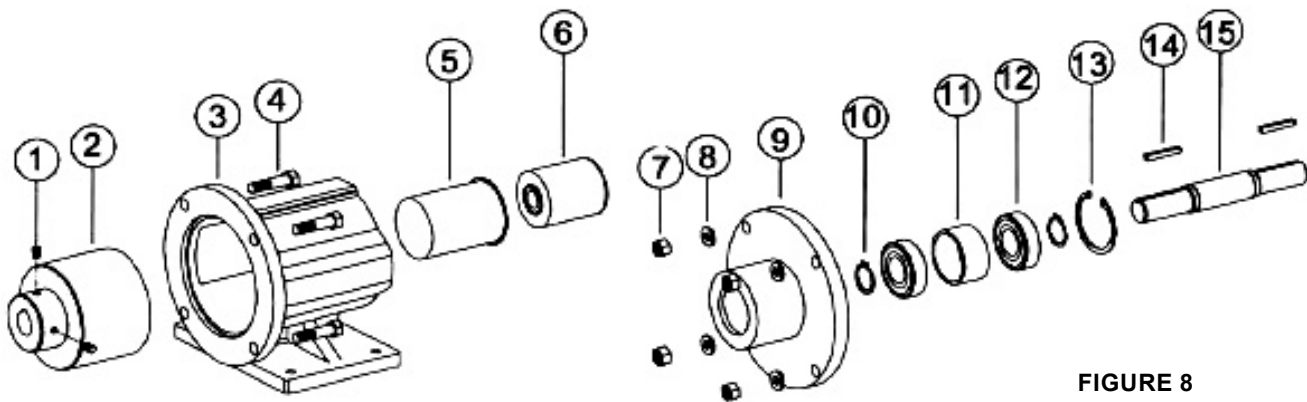
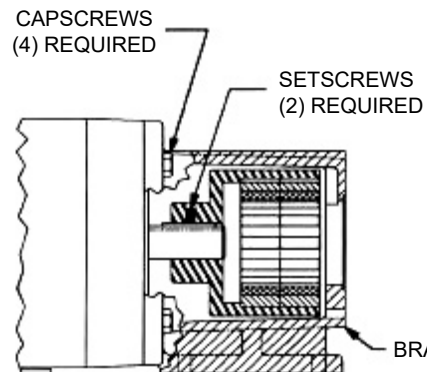
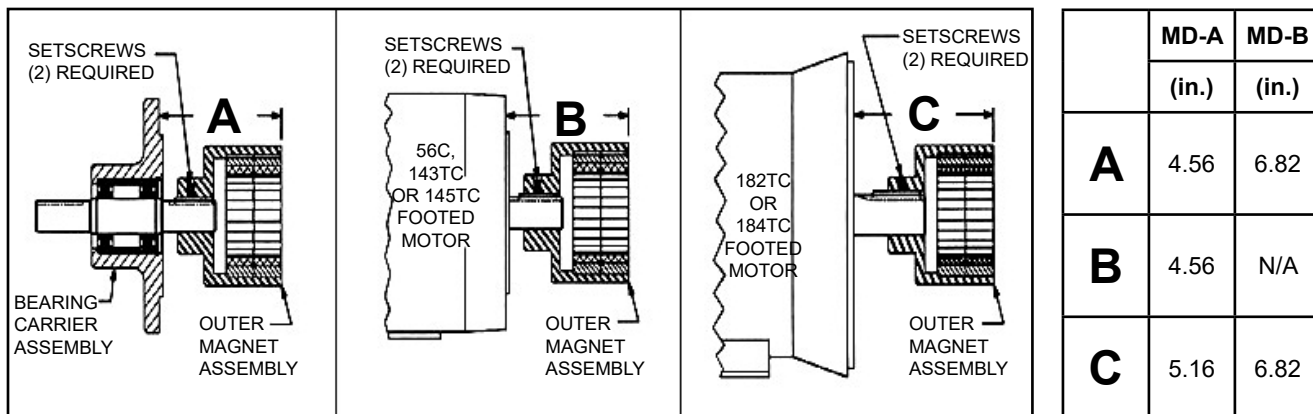

FIGURE 8
FIGURE 12
FIGURE 13
4. You should be able to visually inspect the outer magnets from the end of the bracket. If removal is necessary, start by removing the (4) capscrews and separating the bracket from the motor or bearing carrier (See Figure 12). Loosen setscrews in outer magnet assembly to pull assembly off shaft. If the unit features a bearing carrier, the bearings should not require maintenance since they are sealed. If necessary, disassemble by removing the single internal retaining ring (See Figure 8) then press the shaft and bearings out of the housing. Remove the external retaining rings from the shaft to remove bearings.
1. Inspect magnets for any metal objects that may be attached. Remove any foreign material. Locate the outer magnet assembly per drawing (See **Figure 13** on page 8). Apply Loctite to the set screw threads and tighten both setscrews on to the motor or bearing carrier shaft. The bearing carrier housing features a machined step on its mounting flange, which is the reference point for setting the position of the outer magnet.
2. Mount the bracket to the motor (or bearing carrier to footed bracket) and secure with 4 capscrews (See **Figure 12** on page 7). Reach in and rotate magnets by hand to make sure there is no interference. If rubbing occurs, check the dimension. (See **Figure 13** on page 8).
5. You should be able to visually inspect the outer magnets from the end of the bracket. If removal is necessary, start by removing the (4) capscrews and separating the bracket from the motor or bearing carrier (See **Figure 12**, page 7). Loosen setscrews in outer magnet assembly to pull assembly off shaft.